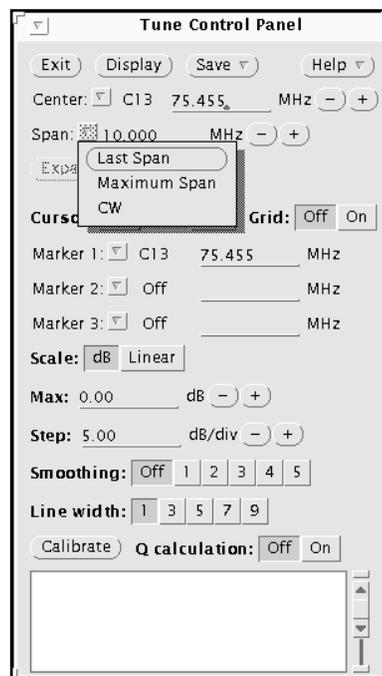

Figure 27. Pull-Down Menu For Span
- In the **Span** field, click on the triangle to open the Span pull-down menu (see Figure 27).